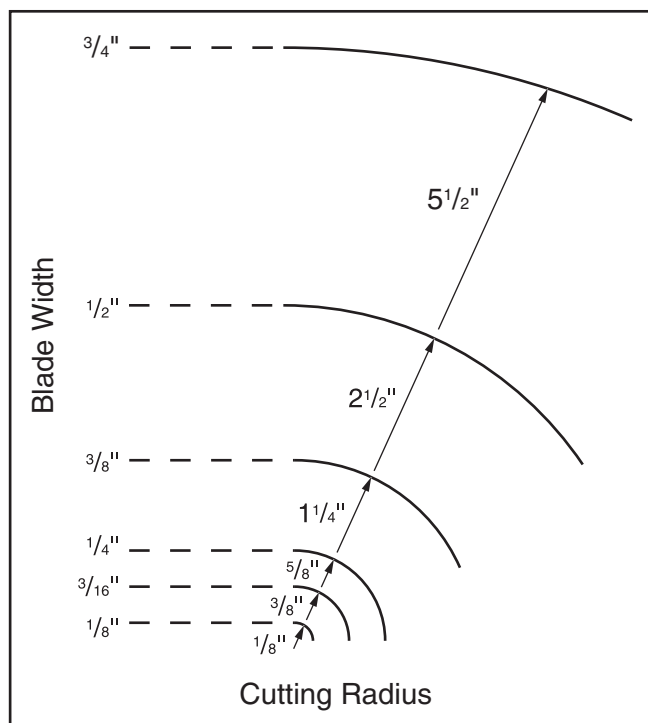

Figure 68. Recommended cutting radius per blade width.
- **Curve Cutting:** Use the chart in **Figure 68** to determine the correct blade for curve cutting. Determine the smallest radius curve that will be cut on your workpiece and use the corresponding blade width (refer to **Cutting Curves** on **Page 50** for more information).